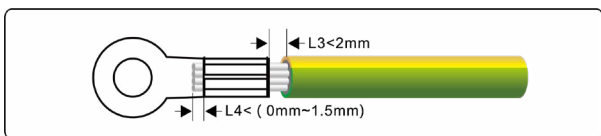

Figure 5.2 Crimping a cable (unit: mm)
Step 2 Insert the exposed core wires into the crimping areas of the OT terminal and crimp them using hydraulic pliers, as shown in **Figure 5.2**.